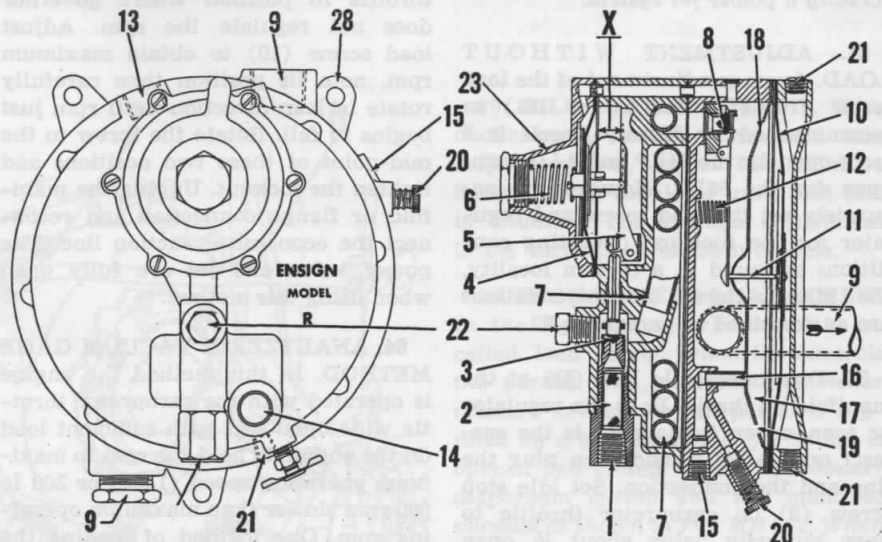

Fig. MH165—Ensign model R regulator as used on Massey-Harris model 55LP.
**87. HOW IT OPERATES.** Liquid LP-Gas from supply tank enters the R regulator at (1—Fig. MH165) and is